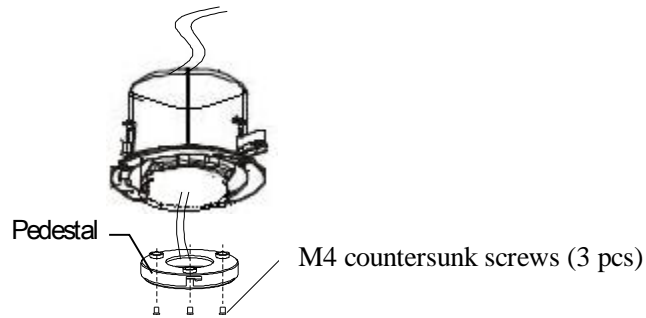

Figure 19
7.4) Fit the “installation pedestal” with the embedded mount ( Figure 19)